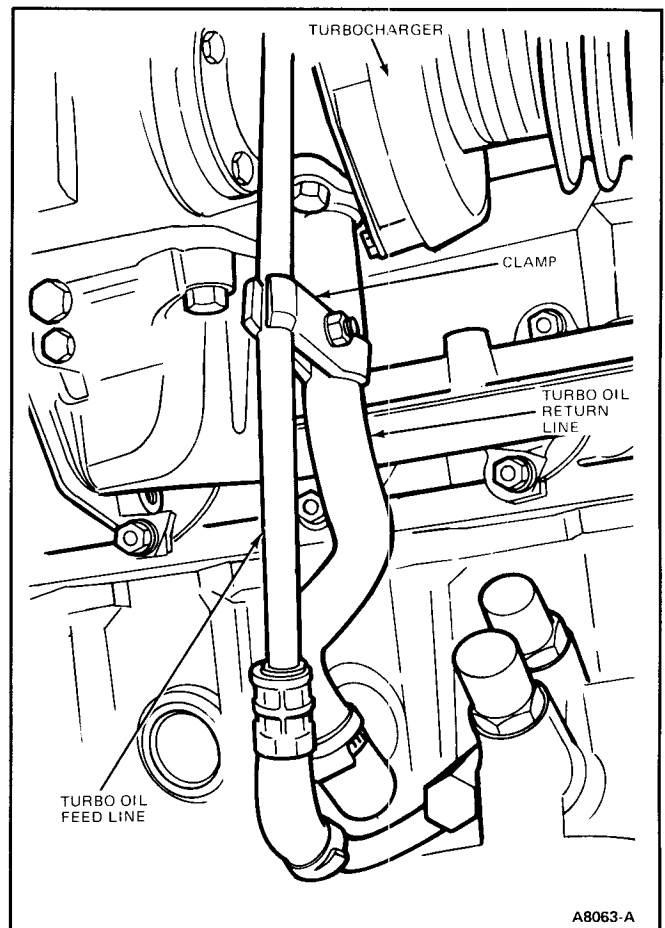

FIG. 21 Turbo Oil Feed and Return Lines
2. Disconnect muffler inlet pipe at turbo outlet and cap turbo outlet using Tool T84P-9395-B or equivalent (Fig. 21).
6. Remove clamp attaching turbo oil feed tube to oil return tube (Fig. 21).
7. Remove bolts attaching oil feed tube to turbo (Fig. 21).
8. Disconnect oil return line from turbo oil drain port (Fig. 21).
9. Connect turbocharger oil lines and tighten to 20-24 N·m (14-17 lb-ft) (Fig. 21).